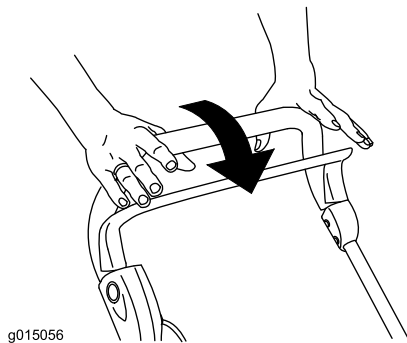

Figure 12
1. Release the control bar (Figure 12).